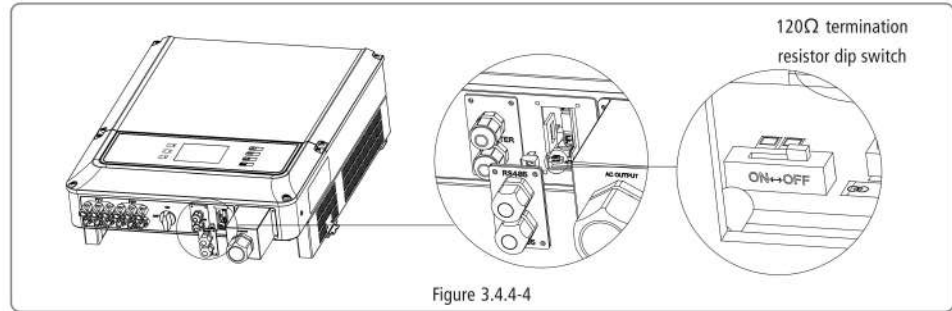

Figure 3.4.4-4
- For single inverter communication, put on the dip switch near the terminal. (The default is OFF). Then shielding layer of communication cable is single point grounding, illustrated as Figure 3.4.4-5.
- For the end inverter in daisy chain, put on the dip switch near the terminal. (The default is OFF). Then shielding layer of communication cable is single point grounding, illustrated as Figure 3.4.4-5.
(4) RS485 communication connection method